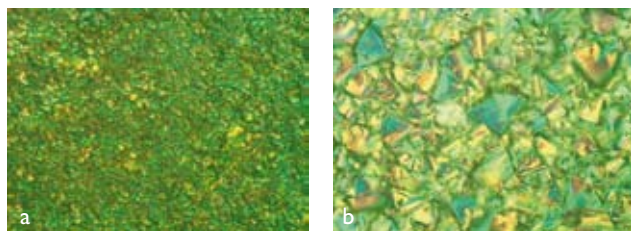

Figure 1. Real diamond coatings.
3. Real diamond coatings (nano- or microcrystalline; see Figure 1).